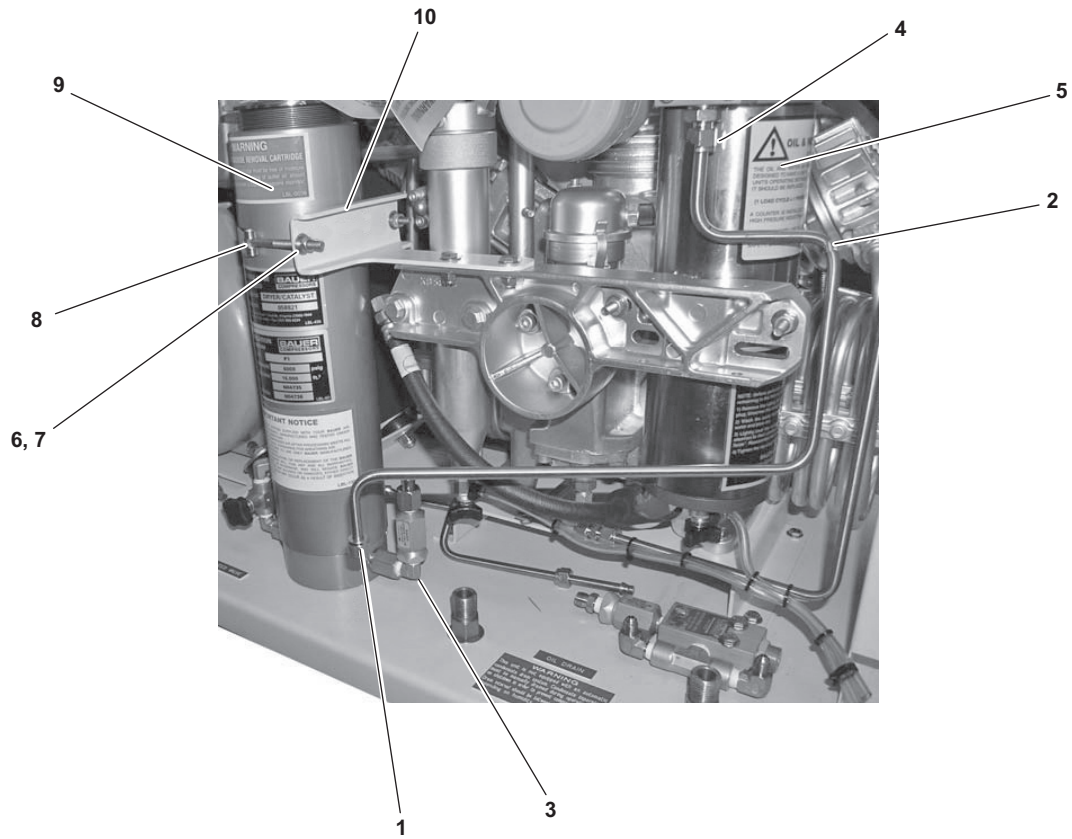
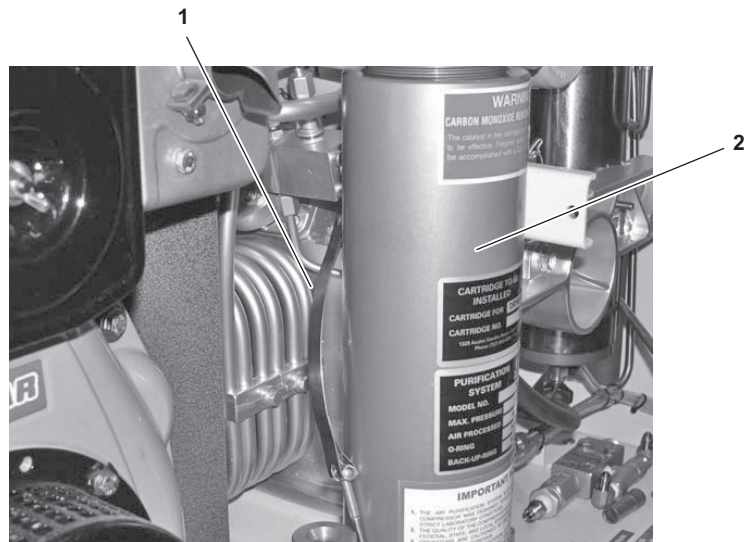

Figure 6-20. Removing Flare Fitting on Line to Pressure Maintaining Valve
Figure 6-21. P1 Purification Chamber Brace Disconnected
- (3) Using a 5/8 inch wrench, loosen (CCW) and remove the flare fitting (figure 6-20, item 1) on the line (figure 6-20, item 2) going into the P1 check valve (figure 6-20, item 3).
- (4) Using a 5/8 inch wrench, loosen (CCW) but do not remove flare fitting (figure 6-20, item 4) on the connection at the final separator (figure 6-20, item 5). This will enable the line (figure 6-20, item 2) to be moved as needed to facilitate maintenance.
- (5) Using a 7/16 inch wrench, loosen and remove the front nut (figure 6-20, item 6) and washer (figure 6-20, item 7) on the brace (figure 6-20, item 8) securing the P1 purification chamber (figure 6-20, item 9) to the filter mount (figure 6-20, item 10). The brace (figure 6-21, item 1) will swing free from the P1 purification chamber (figure 6-21, item 2).